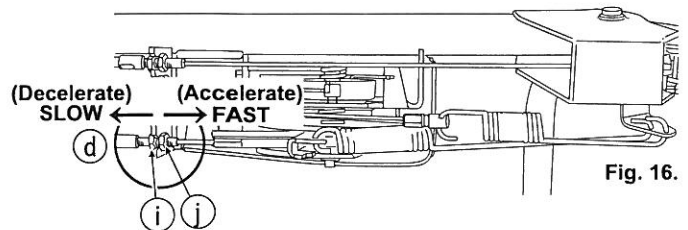

Fig. 16.
- 1 When adjustment is necessary, loosen the lock nut (j) of the HST speed control cable (d), and then turn the adjuster (i) as shown in Fig. 16.
- 3 Start the engine and confirm that running speed changes when Gearshift lever (D) is operated.